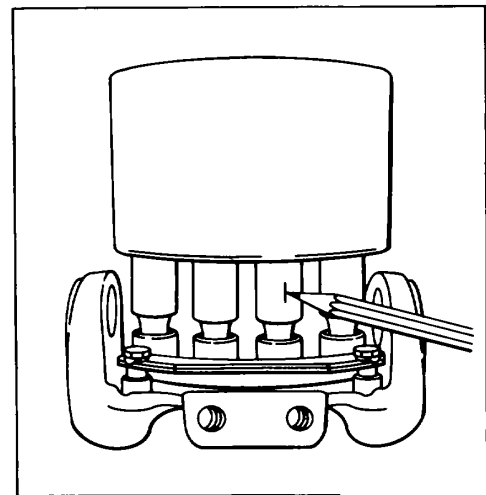

Figure 142.
17. Position pistons (18) in cam assembly to stand erect. Spread a thin film of oil over the inner surface of the block (37) piston bores and very carefully lower the block (37) over the piston assemblies. CAUTION should be exercised to return used pistons to their original bores. A slight rotary motion of the block will often aid in positioning the block over the pistons. DO NOT force the block over the piston assemblies. See Fig. 142.